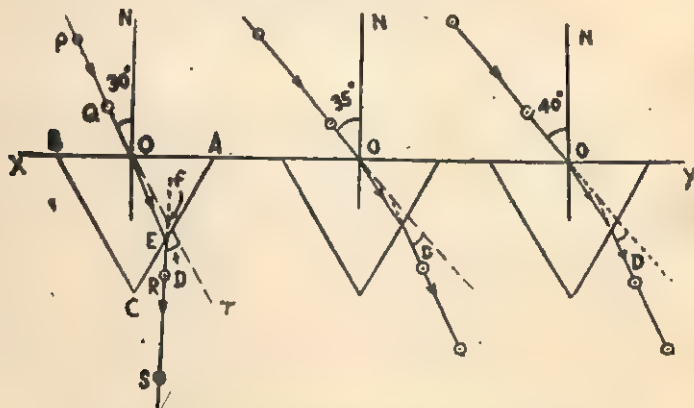

Fig. 11.15. Tracing the path of rays through a prism.
**Theory.** As discussed in the point (2) of §11.11.
**Procedure.** (1) Fix the sheet of paper on the drawing board and draw a line  $XY$  nearly in the centre of the paper and along its length. Draw the normals to the line  $XY$  at points  $O$  at suitable spacings and then the lines corresponding to the incident rays are drawn at angles of incidence ranging from  $30^\circ$  to  $60^\circ$  at intervals of  $5^\circ$  as shown in Fig. 11.15 with the protractor.